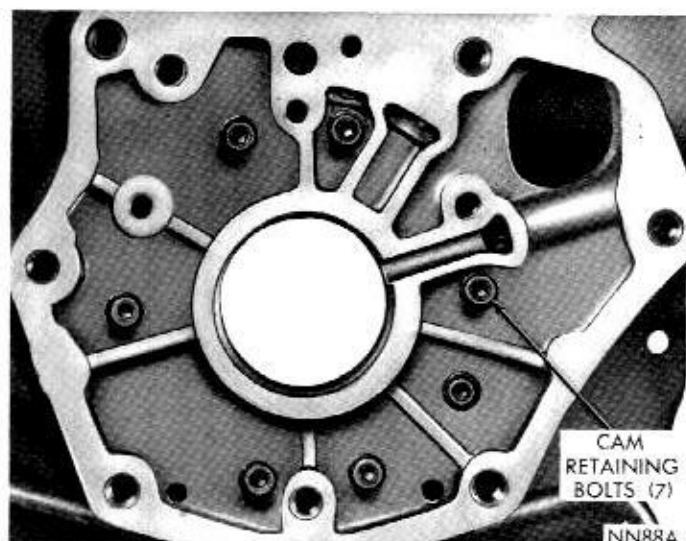
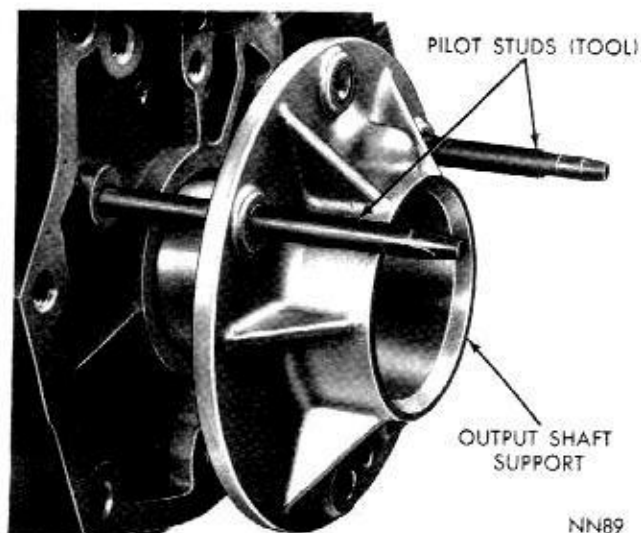

Fig. 75—Cam Retaining Bolts Installed (A-904)
Fig. 76—Installing Output Shaft Support (A-904)
(3) Drill through each rivet head with a 3/8 inch drill. **Be careful not to drill into the transmission case.** Chip off rivet heads with a small chisel, then drive rivets and cam from the case with a blunt punch of proper size.
(4) Carefully enlarge rivet holes in the case with a 17/64 inch drill. Remove all chips and foreign matter from the case, make sure cam area is free of chips and burrs.
(5) To install, position cam and roller spring retainer in the case. Align cam bolt holes with holes in the case, then thread all seven retaining bolt and washer assemblies into cam a few turns. The cone washers must be installed so inner diameter is coned toward the bolt head (Fig. 75).
(6) Tap cam firmly into the case if necessary. Draw retaining bolts down evenly, then tighten to 100 inch-pounds.
(7) Screw two pilot studs, Tool C-3288 into the case (Fig. 76). Chill the support with ice (preferably dry ice). Quickly position support over the pilot studs,